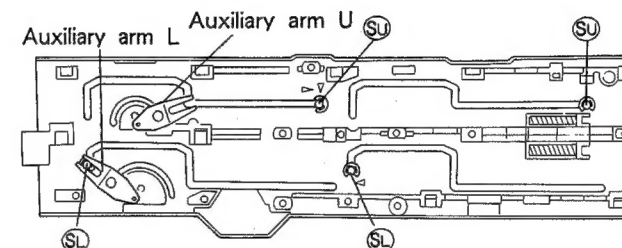

Fig. 3-1
1. Set shaft (SU) of slide-angle U unit, shaft (SL) of slide-angle L unit, auxiliary arm U, and auxiliary arm L to the positions shown in Fig. 3-1.